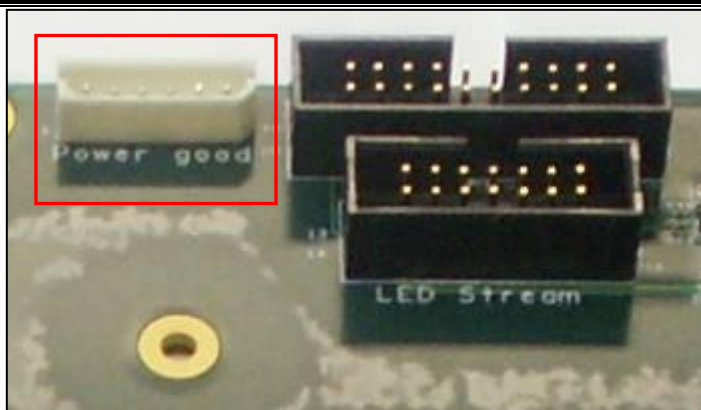

Figure 19: External Power Supplies
11. External Power Supplies Indication (see Figure 19)